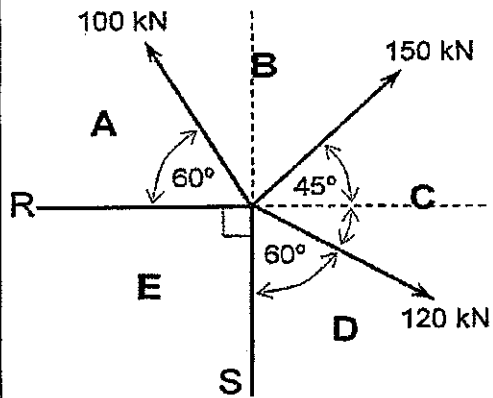

FIGURE 1
- 1.2 Draw the space diagram in FIGURE 1, DIAGRAM SHEET (attached) as shown underneath the vector diagram to determine the magnitudes and directions of the two unknown forces R and S that keep the system in equilibrium.